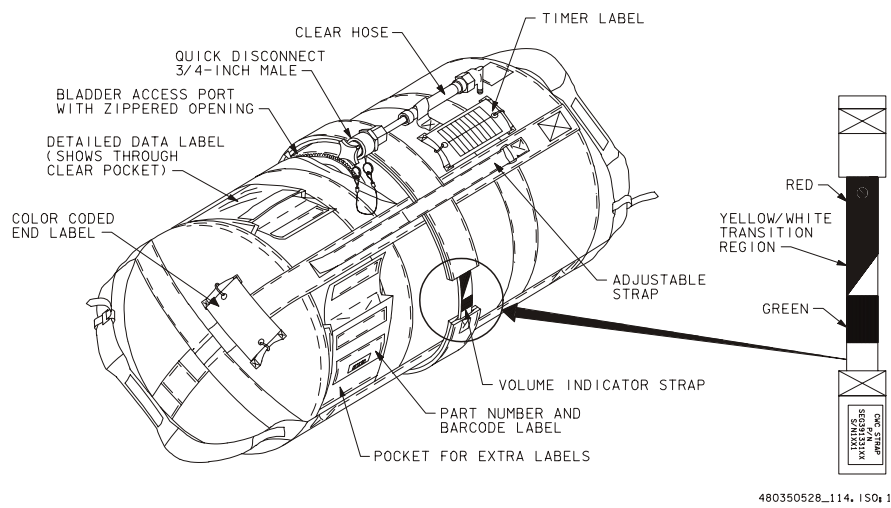

Figure 5-3.- Quantity measuring strap and CWC details.
- If no comm, terminate fill if quantity indicator shows yellow/white transition (see fig 5-3)